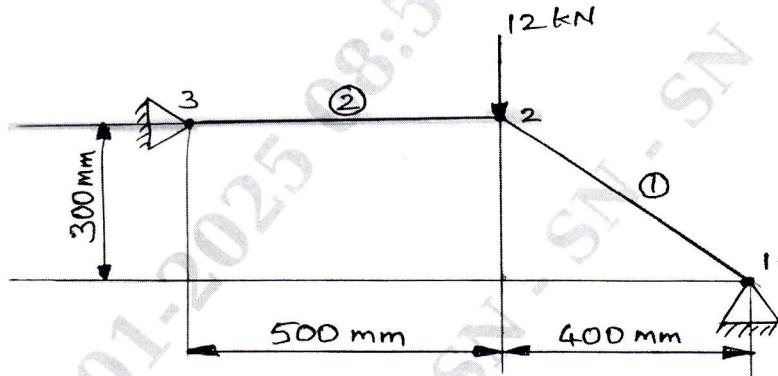

Fig.Q.4(b)
b. Determine the nodal displacements and stresses in each element for the two bar truss shown in the Fig.Q.4(b). (14 Marks)